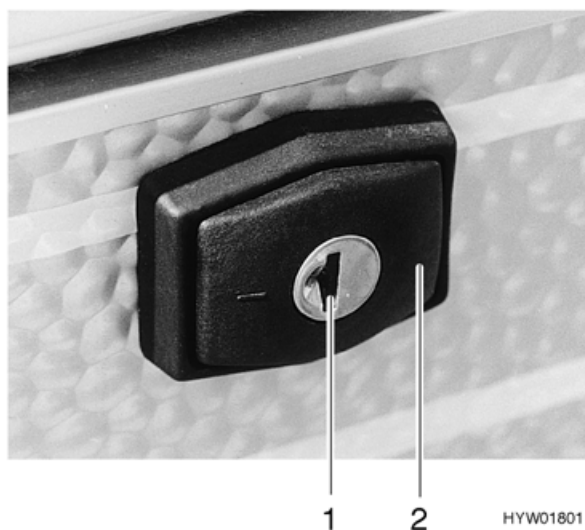

Fig. 15 Flap lock, locked (variant 1)
- ▷ During rain, water can penetrate the opened flap lock. Therefore close the lock handle (Fig. 15,2) as shown in Fig. 15.
- Insert key into locking cylinder (Fig. 15,1) and turn a quarter turn in an anticlockwise direction. The lock handle (Fig. 15,2) snaps out.
- Turn lock handle (Fig. 15,2) in a clockwise direction, until it is horizontal. The flap lock is bolted but not closed.
- Insert key into locking cylinder (Fig. 15,1).